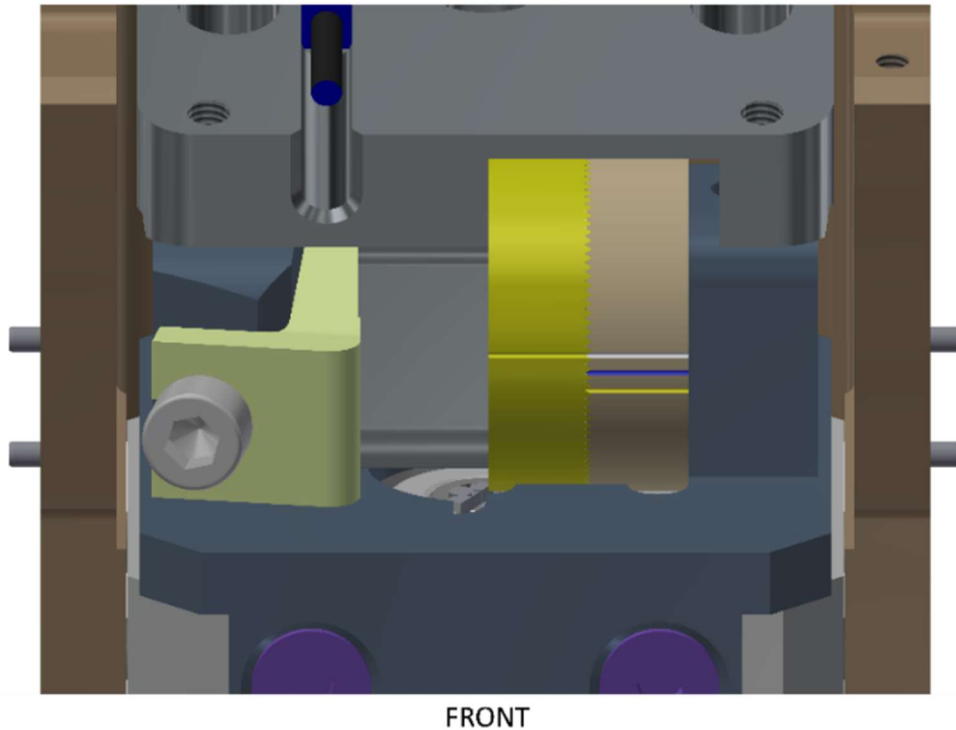
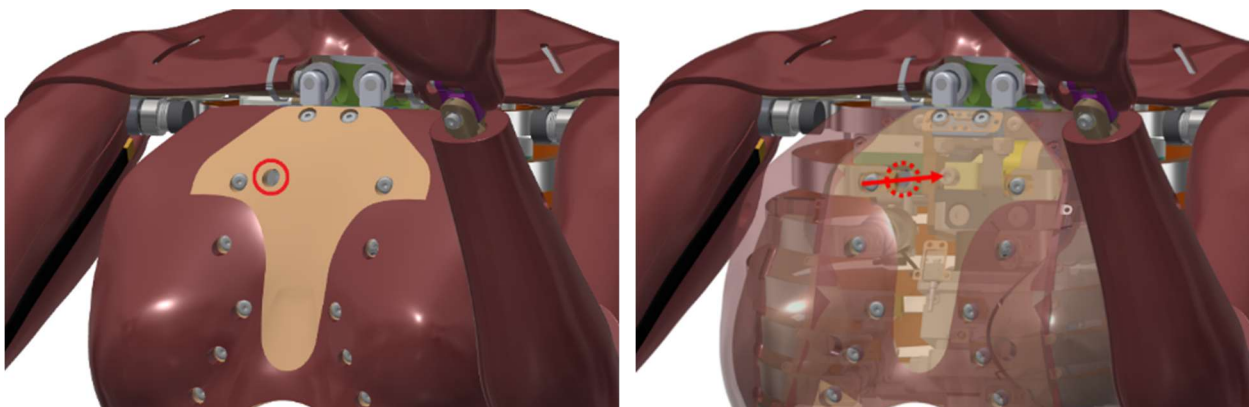
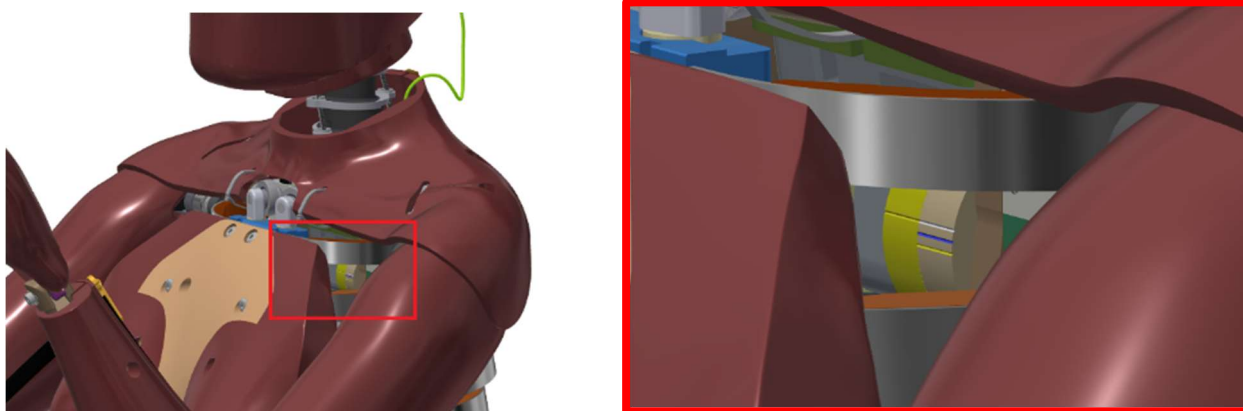

Figure 4-60. Neck posture adjustment assembly (474-3050) posture setting. Diagram shows neck in “neutral” position
Figure 4-61. Access to the neck pitch change mechanism through chest flesh
Figure 4-62. View of the neck pitch change mechanism through the upper thorax
The neck pitch change mechanism connects the lower neck load cell (SA572-S106) to the upper spine box (474-3100). It allows adjustment of the angle of the base of the neck in 3° increments. There are three scribe lines marked on the left sprocket, which is fixed to the upper thoracic spine, and one scribe line setting marked on right sprocket, which rotates with the neck. To achieve a neutral setting, align the fixed scribe line with the superior, white scribe line on the left sprocket, as shown in Figure 4-60. The default posture is the neutral setting, which most closely resembles the Anthropometry of Motor Vehicle Occupants (AMVO)³ seated posture for a 5th percentile female occupant.
- 4.6.2.2 Locate the M6 X 1 X 12 mm SHCS on the front of the upper thoracic spine, as indicated in Figure 4-60. With the dummy fully assembled, the SHCS can be accessed by inserting a T-handle through the access hole in the chest flesh, at the rib #2 level and into the head of the adjustment bolt (Figure 4-60 through Figure 4-62).
- 4.6.2.4 Manipulate the neck to achieve the desired posture setting. Set the default position (“neutral”) as shown in Figure 4-60 by aligning the superior/white scribe line on the sprocket attached to the neck with the scribe line on the fixed sprocket. With the dummy fully-assembled, the scribed lines can be viewed by looking between ribs #1 and #2 from the front of the dummy (see direction indicated in Figure 4-61 and expected view in Figure 4-62).